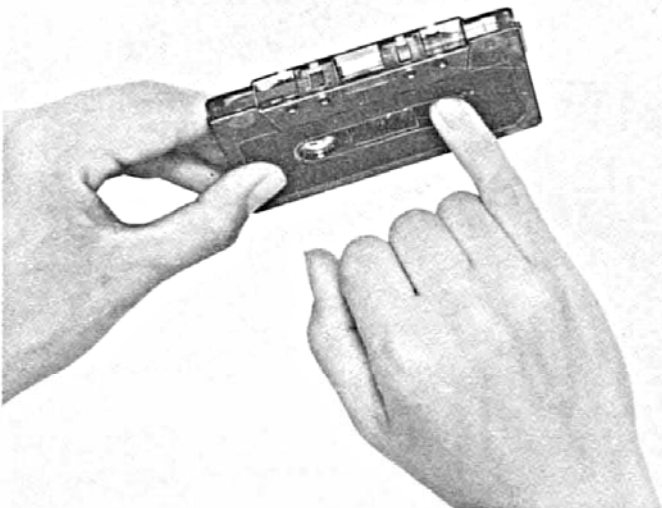

Figure 3. Cassette Preparation
2. Before inserting the cassette, take up the slack of the tape to prevent it from becoming entangled around the capstan. Twist the cassette hub inside the cassette with your fingernail or with a pencil. (See Figure 3.)
When taking up the slack in the cassette before inserting it for recording, advance the tape so that the spliced area of the tape is ready to pass the recording head (see Figure 3). By knowing exactly where the recordable tape begins, you can assure that the beginning of the program will be recorded.